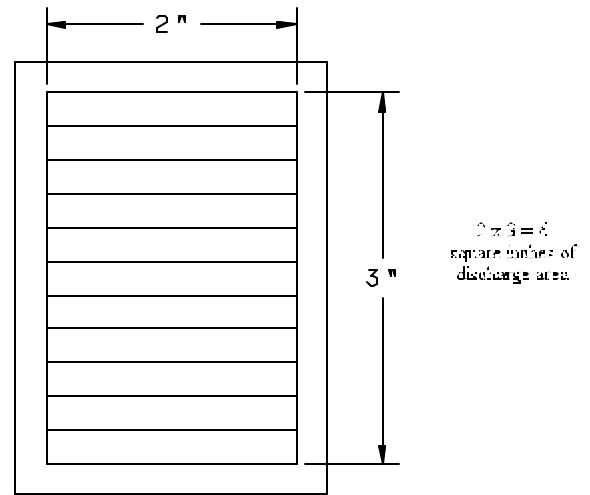

FIGURE 3
1. Supply (cold air) registers should have a minimum discharge area of 48 square inches per system, or 24 square inches per duct. Figure 3 shows how to determine the discharge area for a given register, and how to determine the number of registers required.
The register in Figure 3 provides 6 square inches of discharge area. Each duct would require 4 registers of this size to satisfy the 24" requirement.